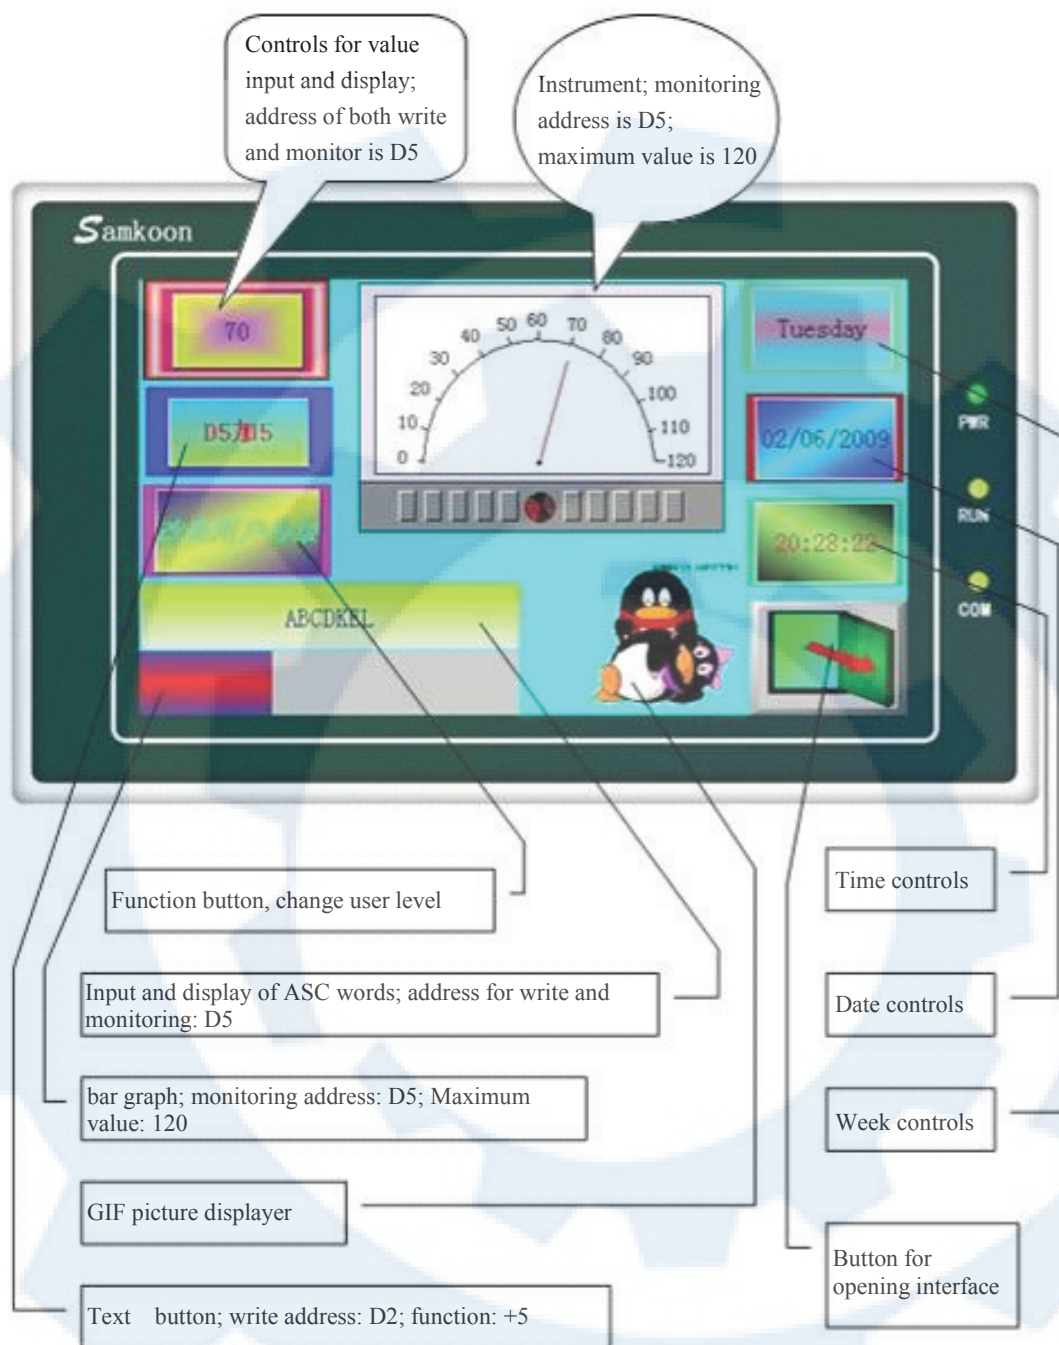

Figure 6-2 Example of SK-4.3A off-line simulation
As shown in figure 6-2 below, you can carry out the off-line simulation of edited configuration. Use mouse to click value display and input. It can be seen that pointer of instrument panel points to 70 if you enter 70. The project designer can better check and find some problems in project configuration screen through off-line simulation, such as the correctness of selected monitoring address and relationship between controls, to ensure good preparations.
- ✓ Click “Save” to save the project. Then, select “Off-line Simulation” in option “Download” in menu bar to pop up a screen as shown in figure 6-2. The introduction of off-line simulation example ends.